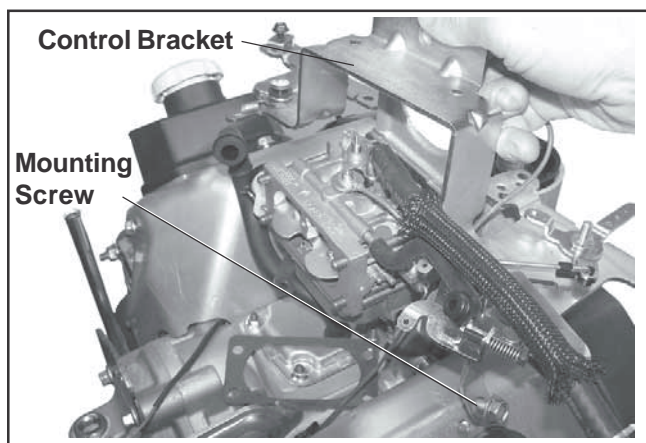

Figure 8-12. Removing Control Bracket.
4. Remove the rear mounting screw on each side and lift off the control bracket. See Figure 8-12.